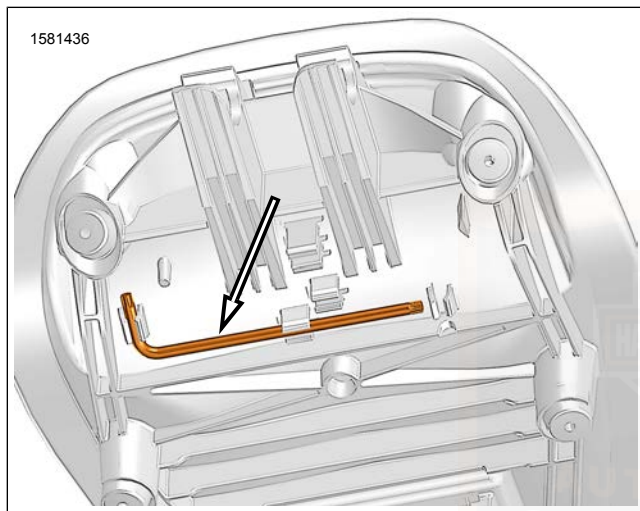
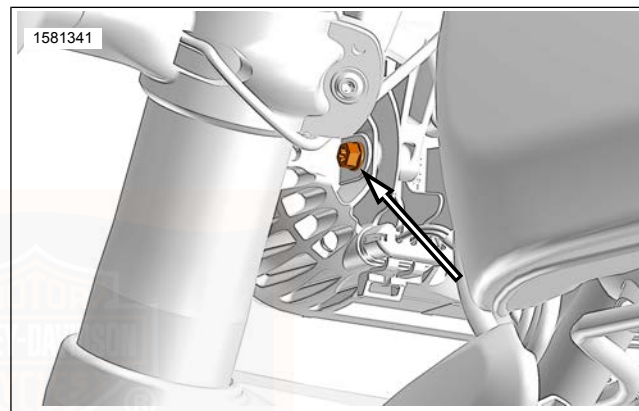
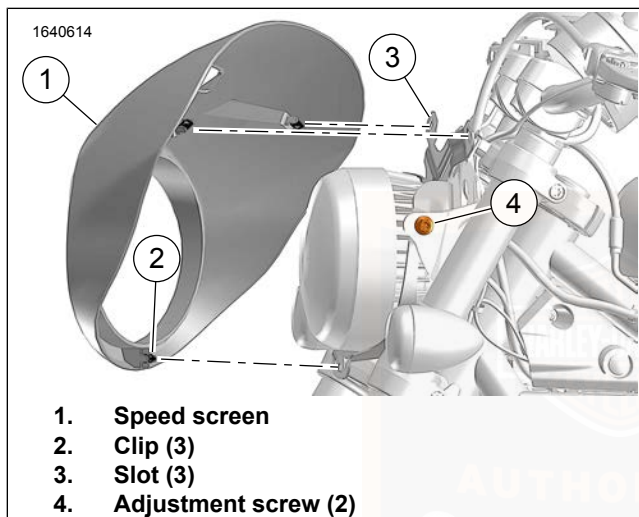

Figure 92. Headlight Adjustment Tool (If Equipped)
Figure 93. Headlight Adjustment Screw: RH1250S (left side shown)
Figure 94. Headlight Adjustment Screw: RH975S (left side shown)
See Figure 92. Some models are equipped with headlamp adjustment tool.
1. **Nightster Special (RH975S):** See Figure 94. Remove speed screen (1).
- a. Pull speed screen forward to release clips (2).
3. See Figure 92. **If equipped:** Remove headlight adjustment tool from bottom of seat.
4. See Figure 93 or Figure 94. Loosen screws on left and right sides of headlamp.
9. **Nightster Special (RH975S):** See Figure 94. Install speed screen (1).